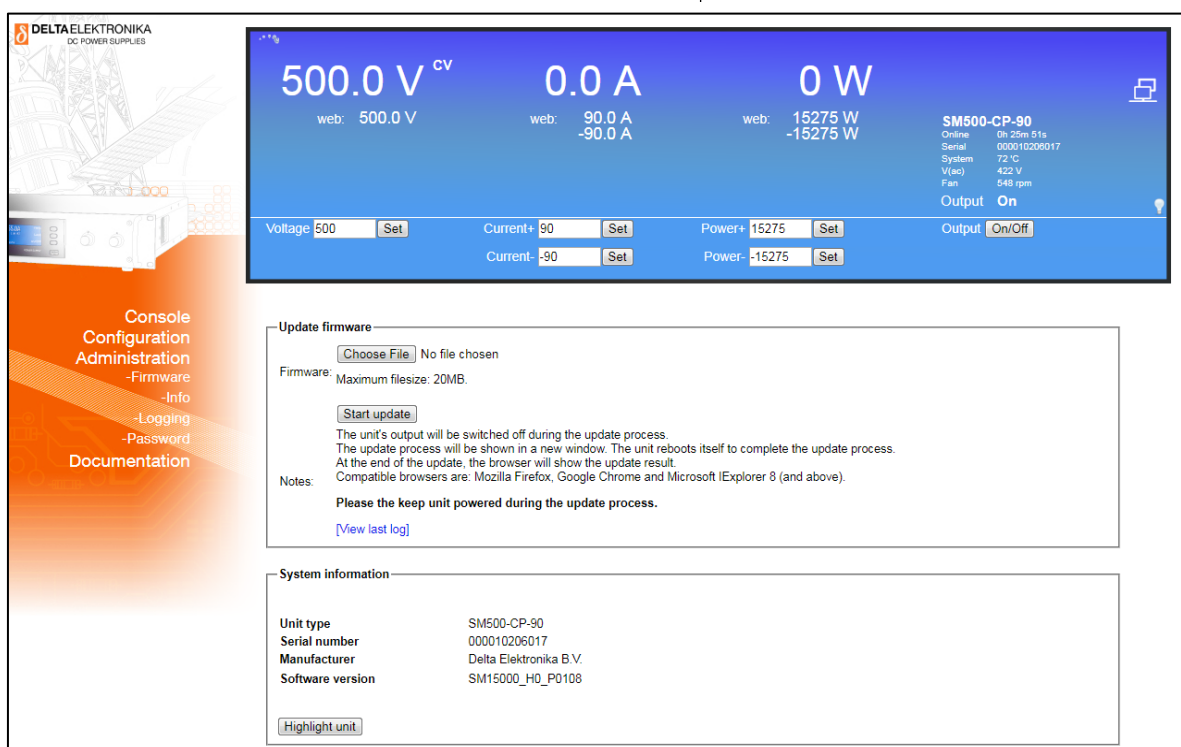

fig 6 - 3 - Via the web interface the downloaded firmware package can be uploaded to the unit.
- Select "Choose File" and browse to the downloaded package, enter password and "Start Update". See below figure 6 - 3 for a screen shot of the web interface.